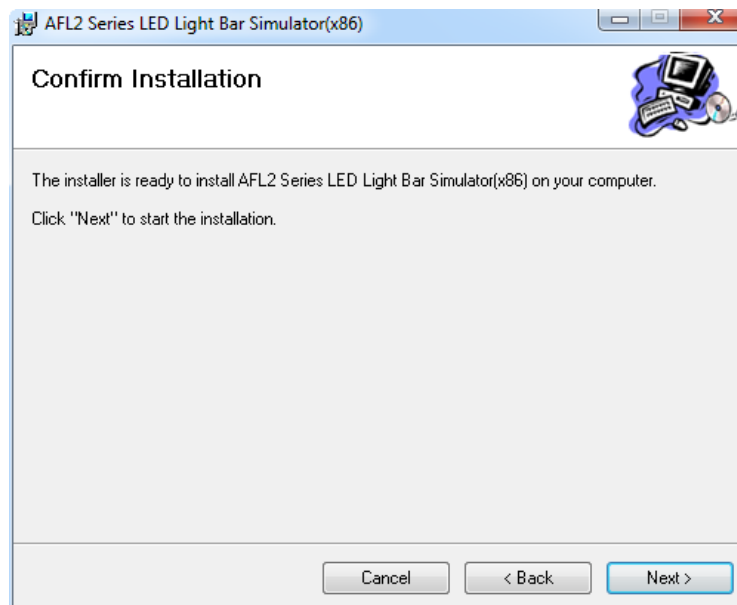

Figure 2-3: Confirm Installation Screen
Step 7: The **Confirm Installation** screen in **Figure 2-3** appears.